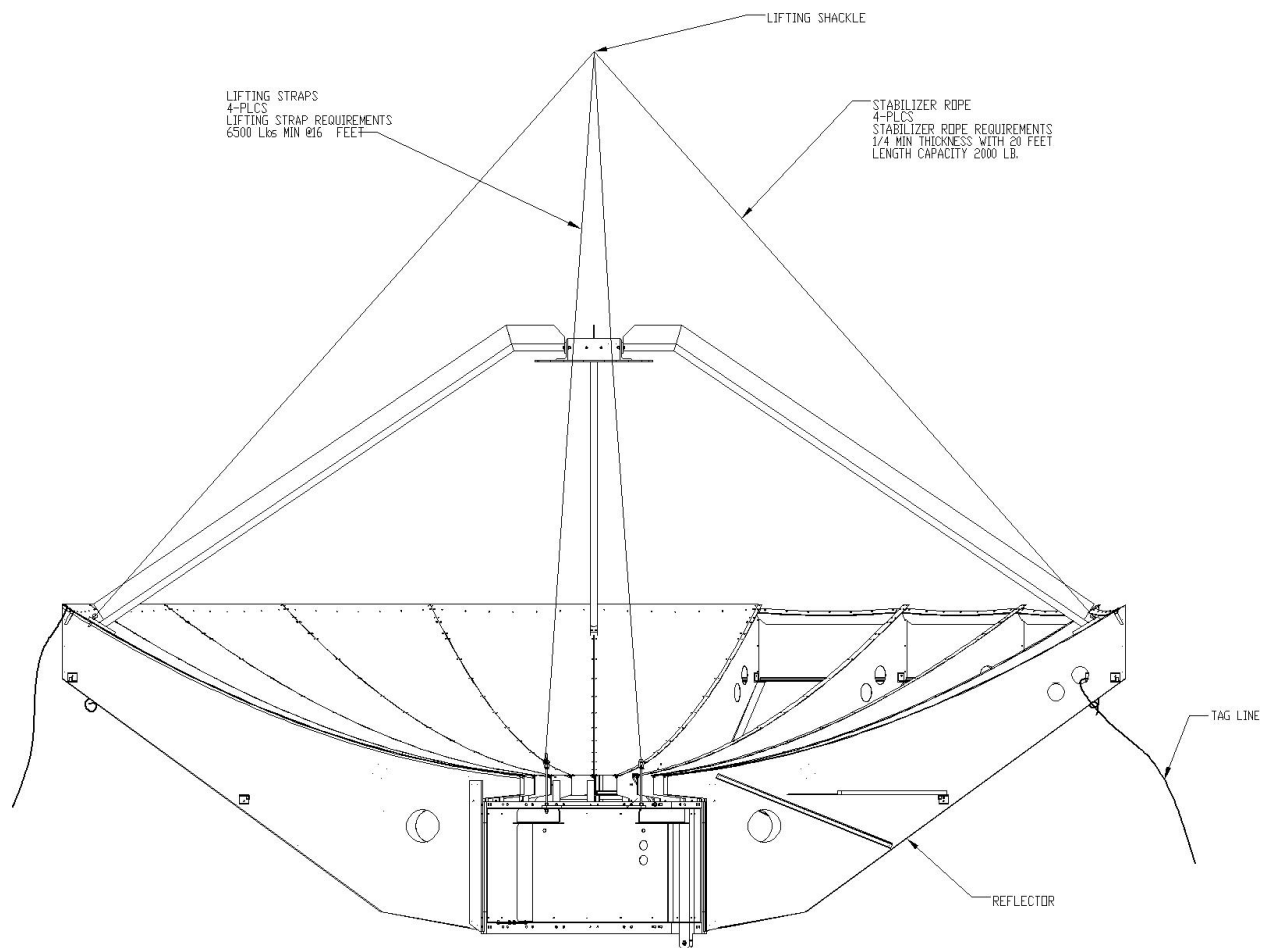

Figure 8. Rigging for Reflector Lift
Note: Figure 8 shows the reflector fully rigged for lift to the pedestal.
- Step 4.** Install shackle in lug of eye bolts (see Figure 8).
- Step 8.** Loosely tie nylon rope from each quad leg eye bolt to the lifting line (see Figure 8).